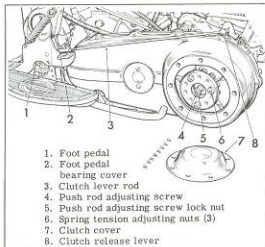

Figure 4B-1. Adjusting Foot Clutch Control (1964 model shown)
## ADJUSTING FOOT CLUTCH CONTROL (Fig. 4B-1)
## ADJUSTING HAND CLUTCH CONTROL (1968 AND LATER MODELS) FIG. 4B-1A
Loosen control coil adjusting sleeve lock nut (2) (Fig. 4B-1A) and turn control coil adjusting sleeve (1) all the way into bracket. Remove chain housing cover, loosen clutch push rod screw lock nut (4) and turn screw (5) in (clockwise) to move lever (8) to the rear, or outward (counterclockwise) to move end of lever forward. When 1/2 inch clearance between lever and starter motor has been attained, tighten lock nut (4) and reinstall chain housing cover.